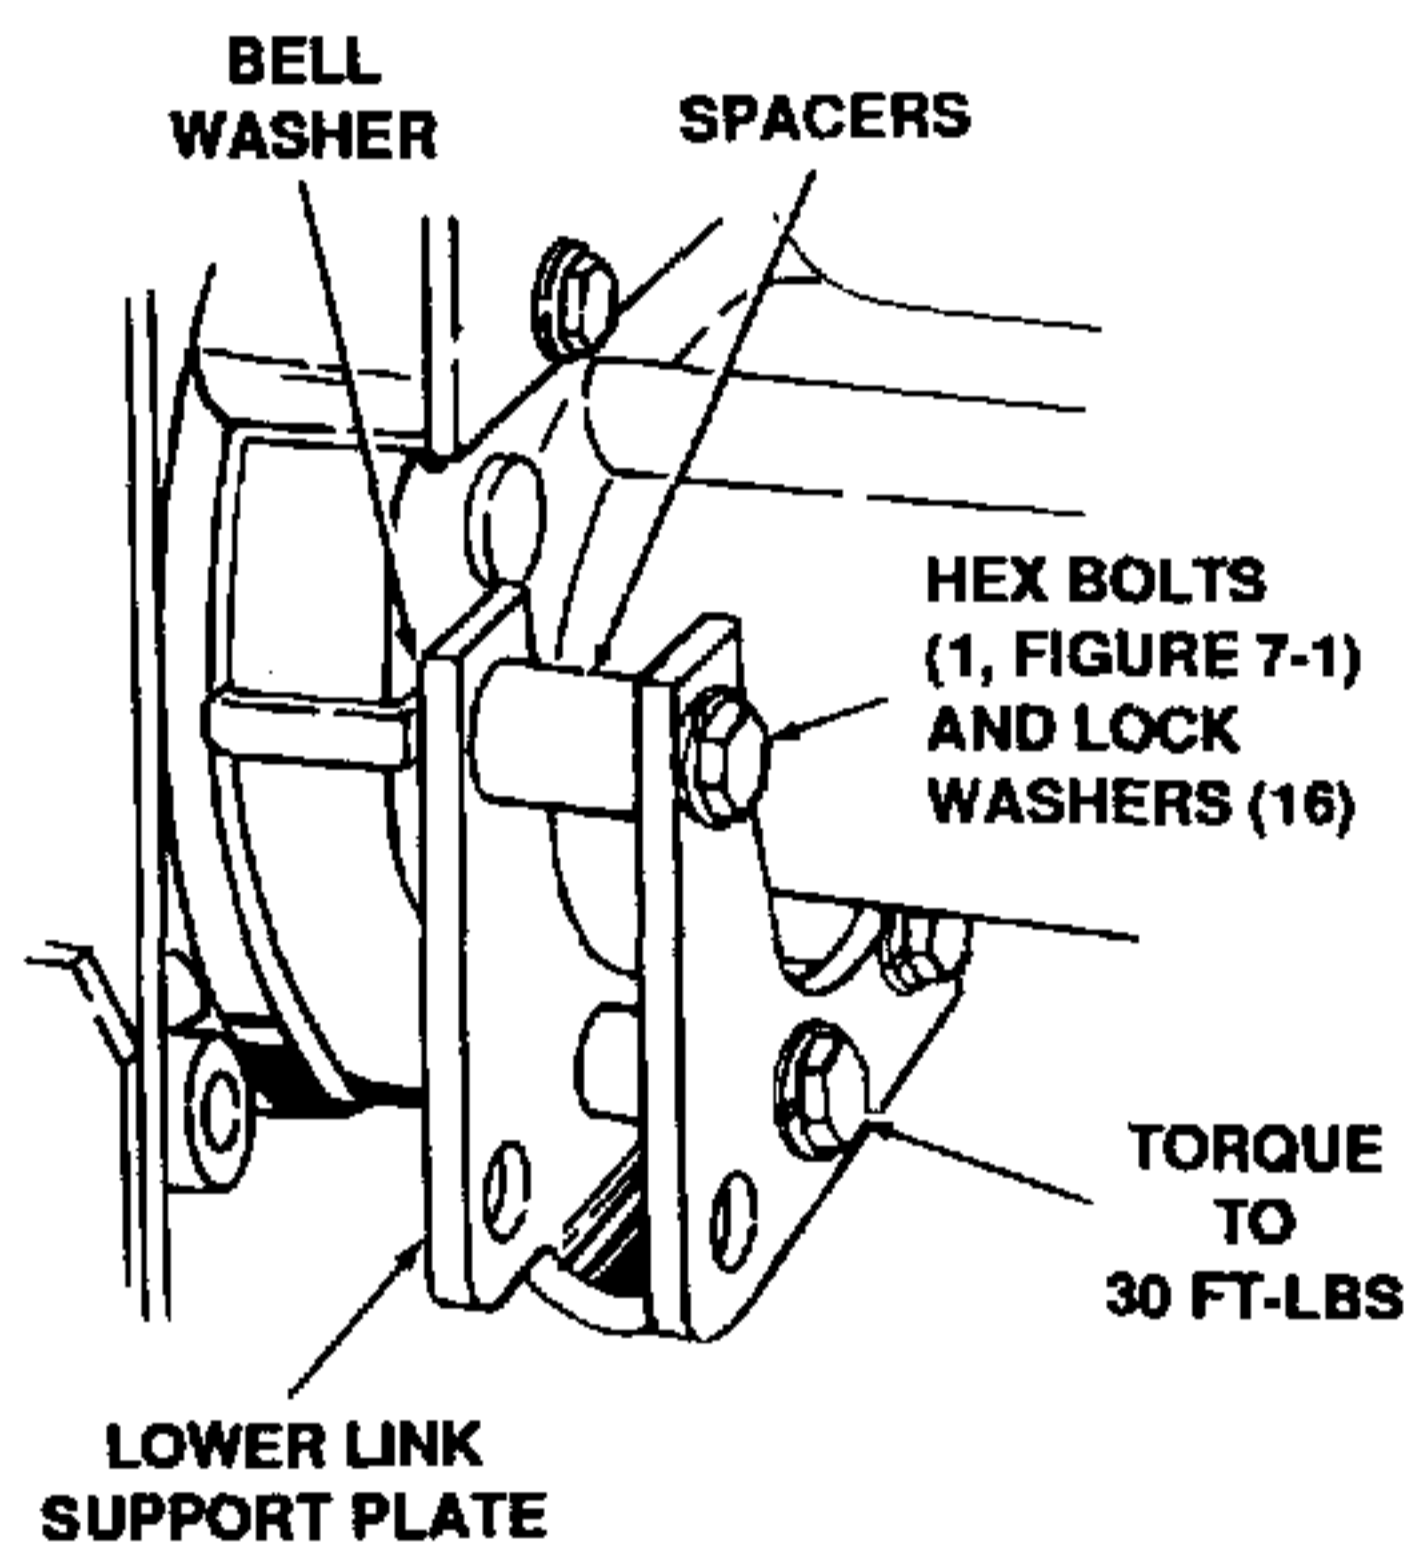

Figure 7-10. Installing Lower Link Support Plate.
- b. Secure a lower link support plate on each transaxle horn using bell washers retained from previous step, spacer (8, Figure 7-1), 3/8-inch ID lock washers (16) and 4-inch hex patch bolts (1). Torque bolts to 30 ft-lbs. Refer to Figure 7-10.